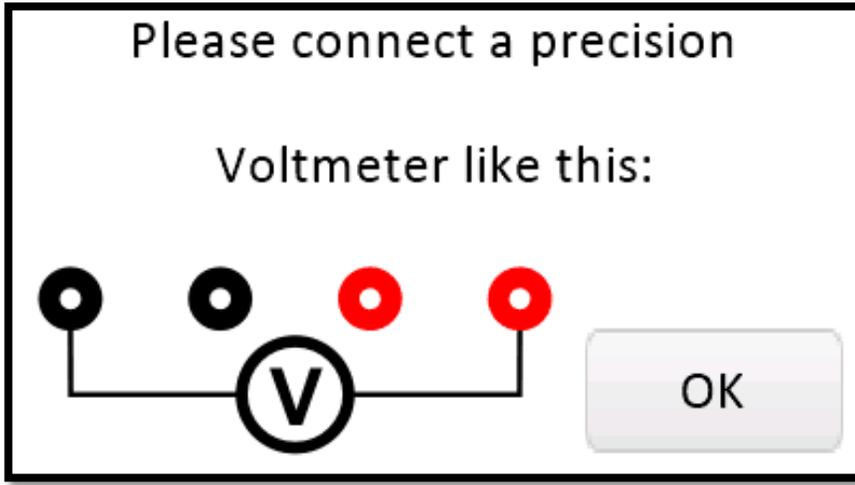

Figure 24. MAXREFDES183# Calibrate Voltage connection.
33. A screen (**Figure 24**) will show how to connect the precision DMM.